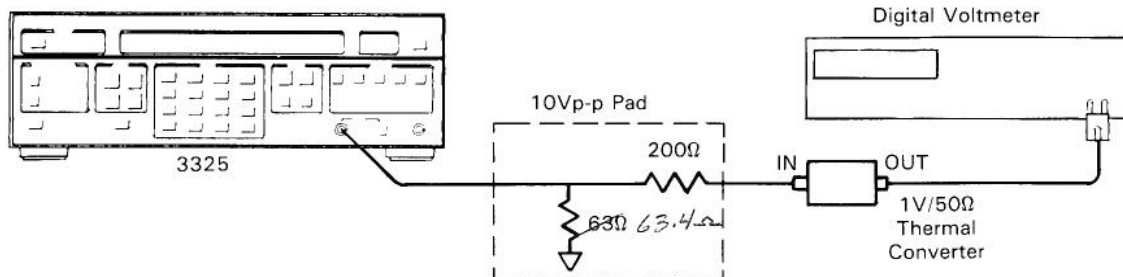

Figure 5-2a. Amplitude Flatness Adjustment (10Vp-p Pad).
- b. Connect the 3325 signal output (through the 10Vp-p pad and thermal converter) to the digital voltmeter (see Figure 5-2a).